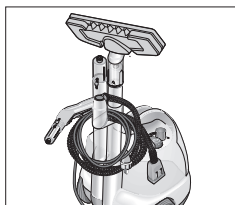

Figure 10: Clearing up
- Put the two extension tubes one after the other into the accessory case (A5) located on the rear of the appliance. Put the floor nozzle (H1) on an extension tube (see Figure 10).